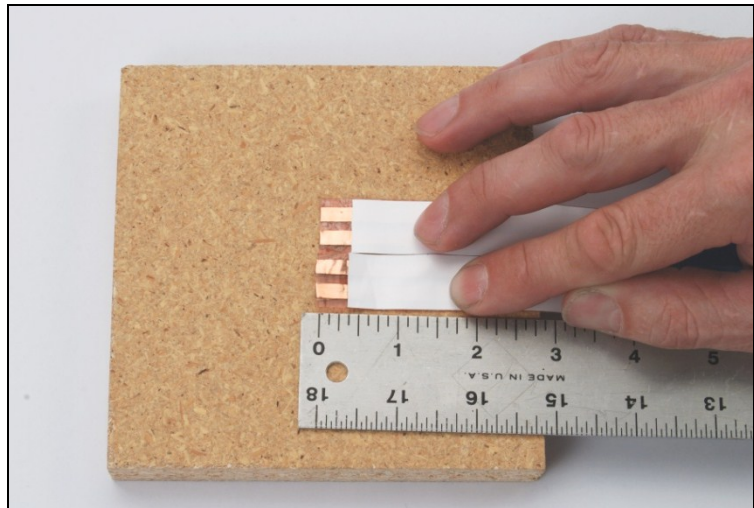

Figure 4
- ✓ Then, with a sharp knife (X-acto knives work well), carefully slice through just the white protective cover 3/8" from each end and remove it, as shown in Figure 4 (both ends are shown here for clarity). **Be careful to not cut through the copper conductors** - only the white protective cover.